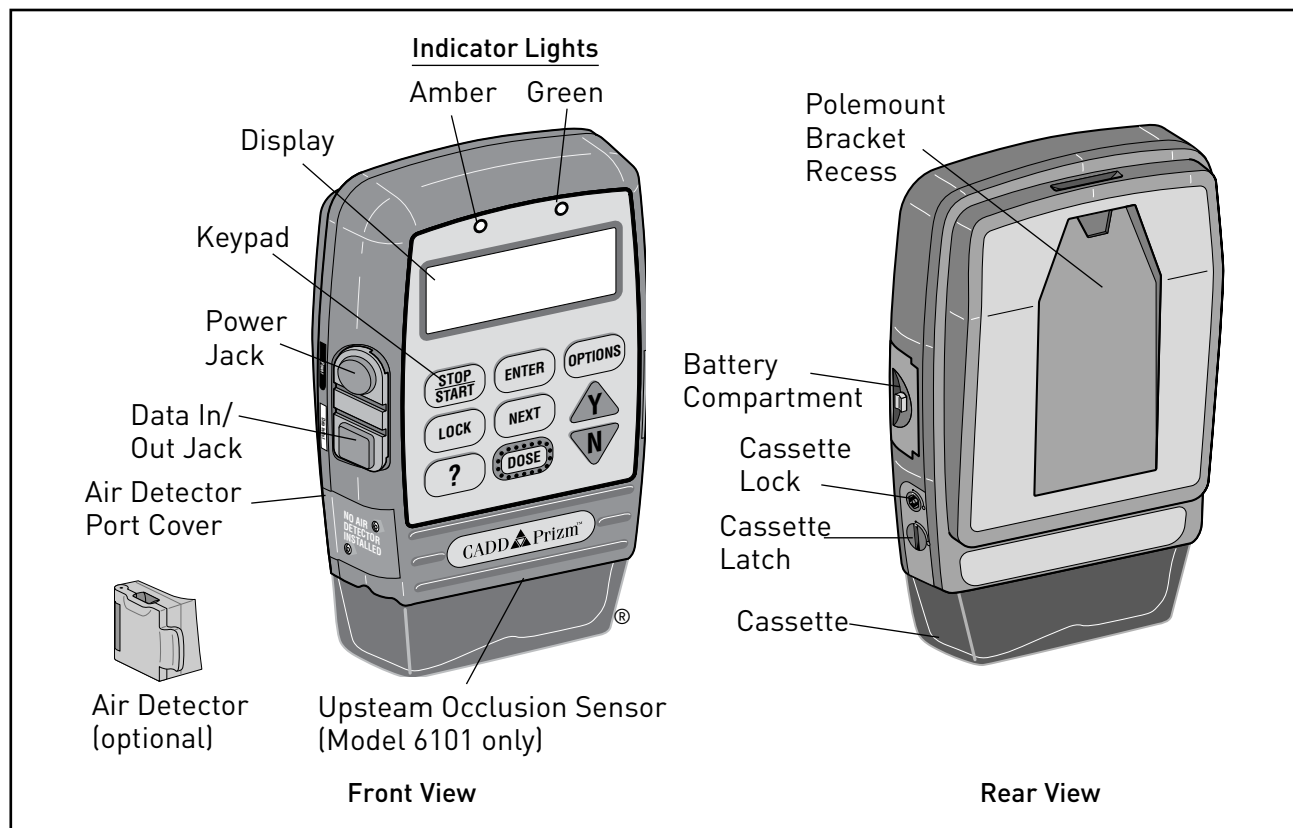
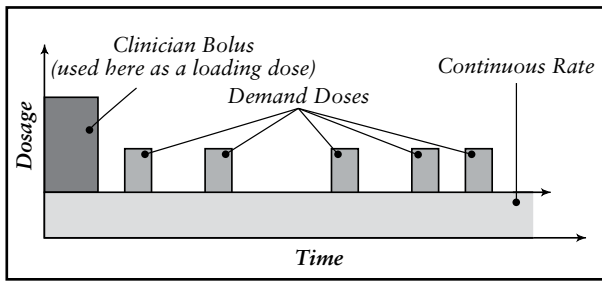

Figure 1. Front and back views of the CADD-Prizm® pump.
Figure 2. PCA mode delivery profile.
settings. The CADD-Prizm® VIP (Variable Infusion Profile) pump may be programmed to deliver medication in one of four delivery modes: (1) PCA (patient-controlled analgesia) (2) Continuous (3) Intermittent and (4) TPN (total parenteral nutrition) (See Figures 2 through 5). The CADD-Prizm® PCS (Pain Control System) pump may be programmed to provide patient-controlled analgesia therapy. Figure 1 shows a diagram of the CADD-Prizm® pump.